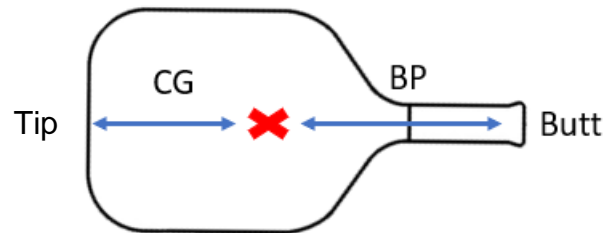

Figure 2
- a. Refer to ASTM F2398–11. The Balance Point (BP) of the paddle is the distance from the butt end of the paddle to the Center of Gravity (CG) of the paddle (refer to Figure 2)